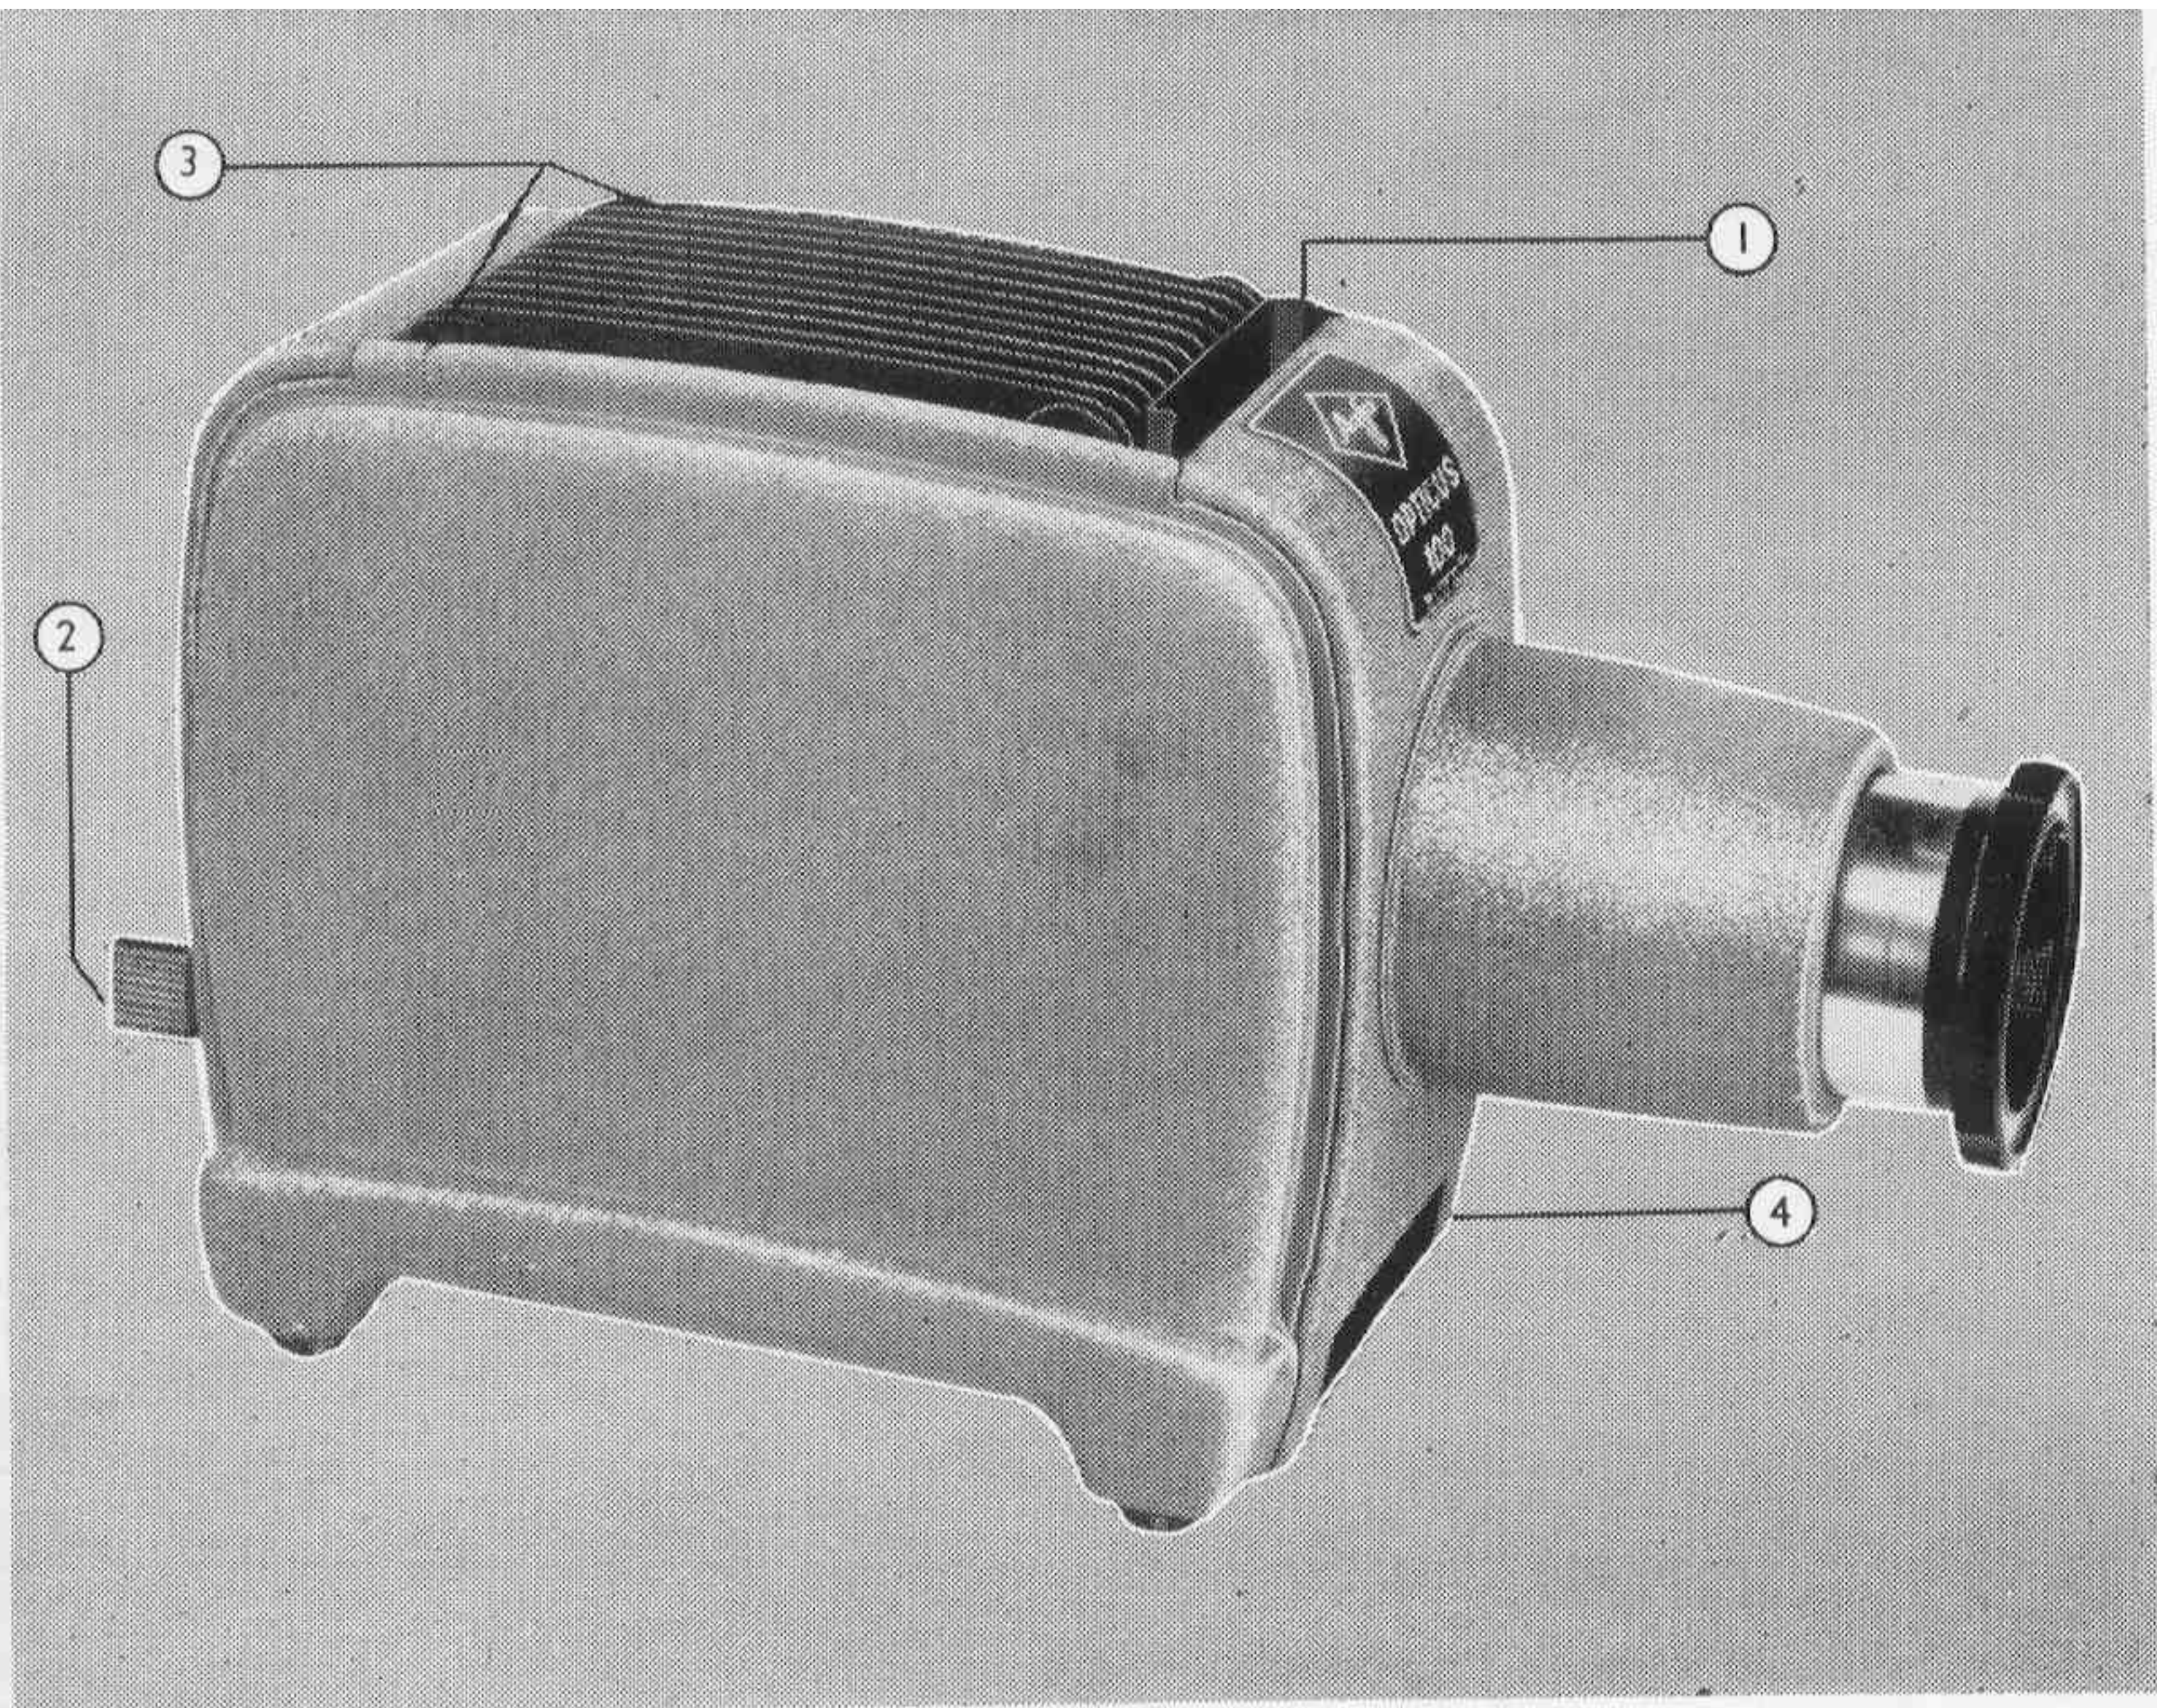

Fig. 1.
1. Grasp the ventilator top by the two protruding lugs 3, Fig. 1, and swing back. The projection lamp (or lamp holder) will now be visible.
Manipulation is simplicity itself: The plug is inserted into a supply socket, and the first slide placed in the feed channel 1, Fig. 1, where it will remain projecting. On depressing the slide change lever 2, Fig. 1, the slide will slip down the channel into the projection gate, where its image on the screen can be brought into sharp focus by rotating the milled collar of the projection lens mount, and by pushing in or drawing out the lens tube. Before this final adjustment is made the distance of the screen should of course have been checked to ensure that both vertical and horizontal pictures are accommodated within it.
A further pressure of the transport lever 2, Fig. 1, causes the projected slide to fall through the forward sloping channel 4, Fig. 1, from which it emerges to lie beneath the lens mount, the next slide automatically falling into position in the projection gate. The slide change lever should always be pressed quickly down as far as it will go and not released too quickly, to ensure that it offers no resistance to the fall of the slide. If slides are being shown in quick succession, each slide as it is ejected should be quickly removed—and preferably replaced immediately in its storage case—to make way for the following slide. For the same reason it is desirable to set up the projector on a polished, or at least a smooth, surface, over which the slides can glide easily, so that if occasion arises two or three slides can be ejected one after the other without hindering the ejection of the next slide.